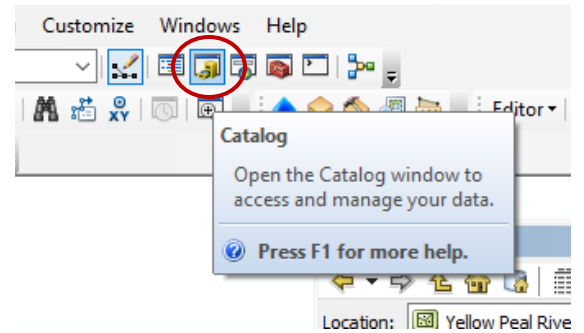

Figure 24. Arc Catalog
- Click on the ArcCatalog button to open ArcCatalog (Figure 24).